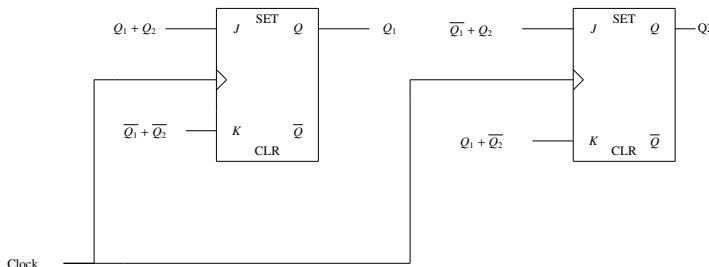

Fig. 5.23
23. A 2-bit synchronous counter using two J-K flip flops is shown in Fig. 5.23. The expression for the inputs to the J-K flip flops are also shown in the figure. The output sequence of the counter starting from  $Q_1Q_2 = 00$  is GATE-IN2018,44